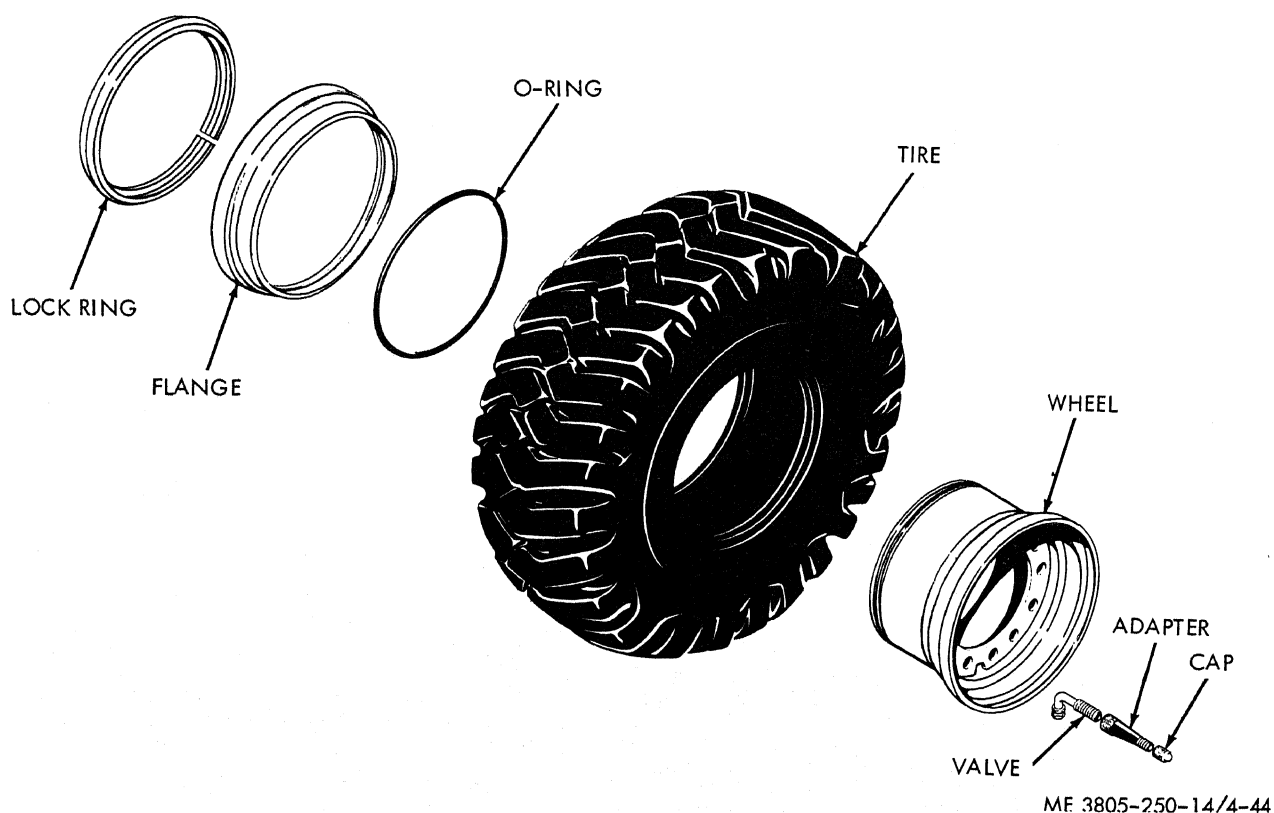

Figure 4-44. Wheel and tire, exploded view.
(1) Park the loader on a firm level surface with the bucket resting on the ground. Install the safety locking bar. Engage the parking brake and block the wheels which are not to be removed.
(2) Use a suitable jack or hoist to raise the wheel at least 2 inches off the ground.
(3) Remove the cap, valve, and adapter (fig. 4-44) and deflate the tire.
(1) Place the tire on the wheel (fig. 4-44).
(2) Lubricate the preformed packing and install in the groove in the rim.
(3) Slide the flange onto the rim, using care not to damage the preformed packing. Install the lock ring, tapping into position with a soft hammer.